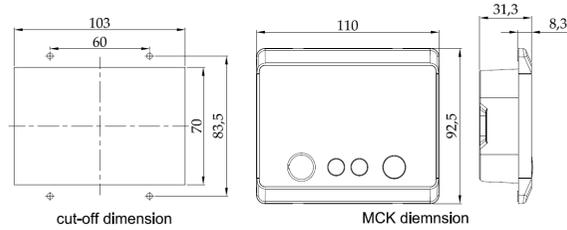

Fig. 4 Installation dimension of MCK(Unit: mm)
- 1) Cut holes on mounting surface following the cut-off dimension in Fig. 4.